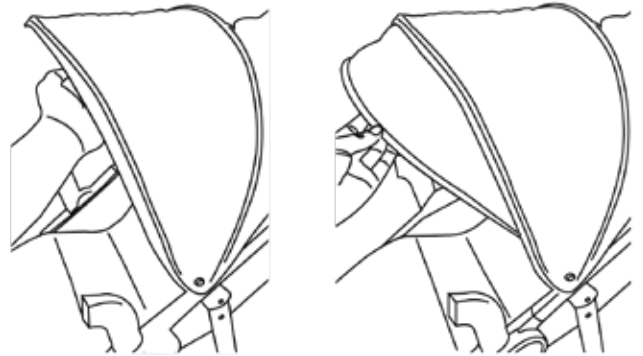

Fig. 6
10. To open the sun visor: grab front edge of sun visor under canopy and pull down and rotate forward until fully extended. (Fig. 6)